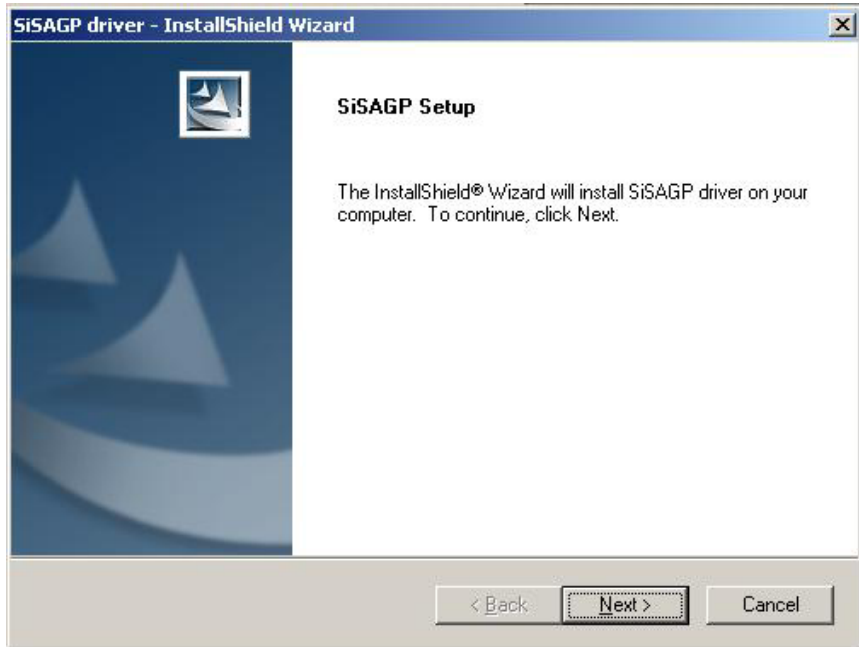

Figure 6-3: Install Shield Screen
Step 4: The “**Install Shield**” window in **Figure 6-3** appears next. If you wish to continue installing the AGP pack driver, click “**NEXT.**”